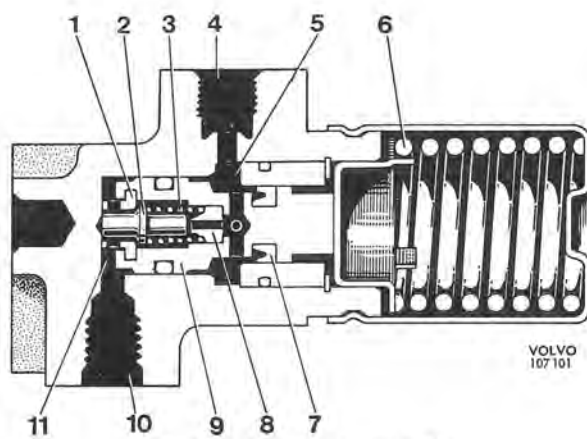
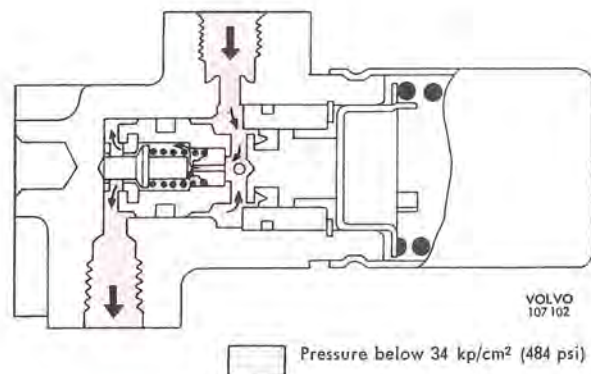

Fig. 5-41. Brake valve, construction
Fig. 5-42. Brake application
A brake valve is connected to each of the rear wheel brake lines, see Fig. 5-6. When the ingoing brake pressure exceeds 34 kp/cm^2 (484 psi) a reduction takes place in the valve. The more powerful the pedal pressure, the greater will be the reduction and thereby the larger the difference between the hydraulic pressure in the front wheel and rear wheel cylinders. This results in a suitable distribution of braking force between both pairs of wheels. The construction of the brake valve is shown in Fig. 5-41 and its function is the following.
When the footbrake is applied, the pressure from the master cylinder is transmitted via the connection (4, Fig. 5-41). The pressure then proceeds through the cylinder (5), the counterbore, past the valves (8) and (2) to cylinder (11) and then on through connection (10) to the rear wheel cylinders, see Fig. 5-42. The hydraulic pressure per unit surface is equal on the different parts of the piston (9), but since its pressure surface is larger in cylinder (11) than in cylinder (5), the force developed will move the piston to the right of the figure. However, this is counteracted by the pressure from the springs (6).
in cylinder (5) moves the piston to the left so that the valve rod comes up against its stop and opens the valve this causing the pressure in cylinder (11) to increase. Due to the larger pressure surface in this cylinder, the piston is moved to the right again and the valve closes. In this way, the piston assumes a position of balance and the outgoing pressure from the brake valve will be lower than the ingoing pressure, see Fig. 5-42. The difference in these pressures is determined by the different areas and spring tension.
When the brake pedal is released, the pressure in the cylinder (4) falls. The piston (9) is moved to the right by spring (6). When the pressure on the right-hand side of the valve (2) falls so much that the hydraulic pressure on the left-hand side enables the valves to be actuated, the connection between both the cylinders is opened again. As the pressure falls, spring (6) presses the left piston back to its original position where the valve is held in the open position by mechanical means, see Fig. 5-41. The equalizing valve (8) is fitted with control channels which ensure an even flow of pressure through the valve.